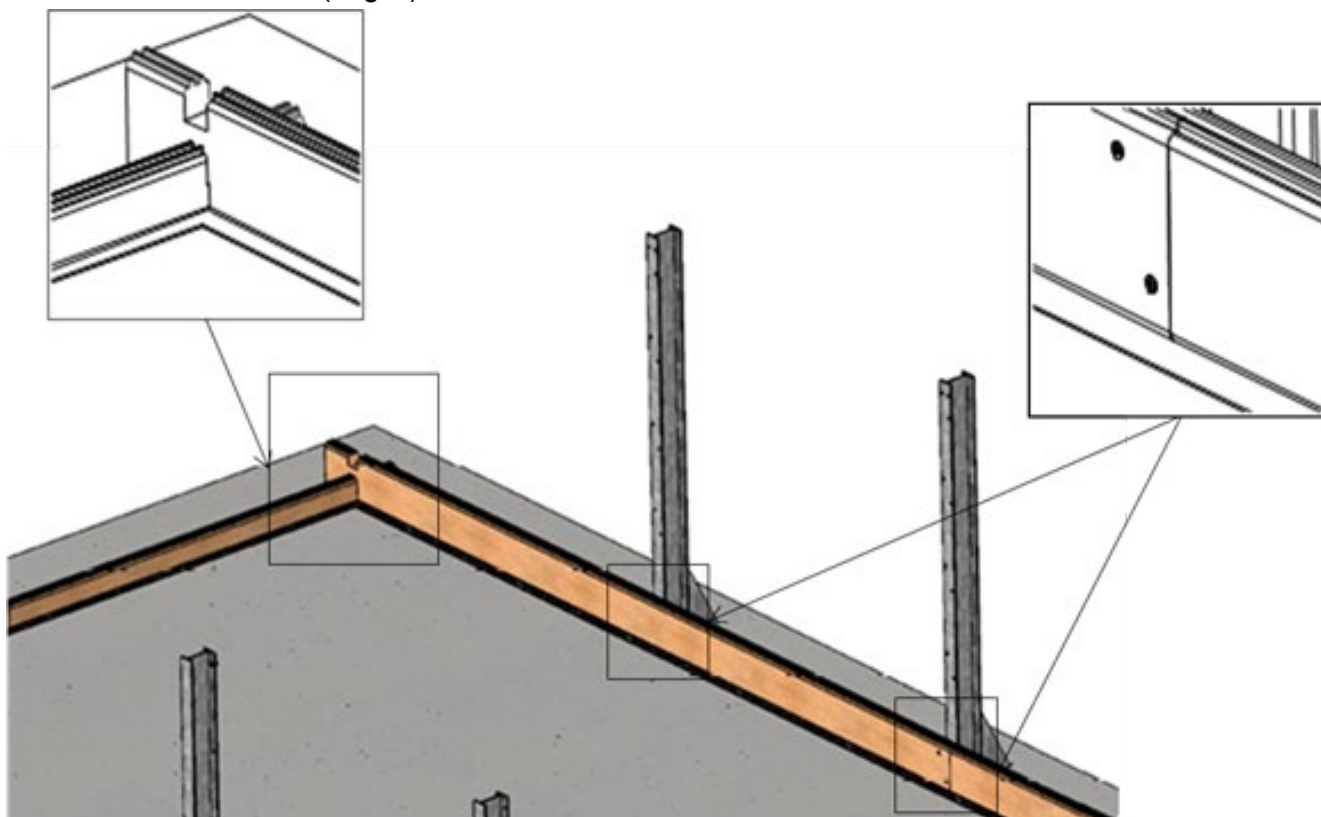

Figure 10 –
- referring to *Figure 10*, screw the slats together using 2 screws per pair of slats in each of the 10 rows, that is, 160 countersunk screws 5 × 40 A4 SS torx threaded over 25 mm (bag C);